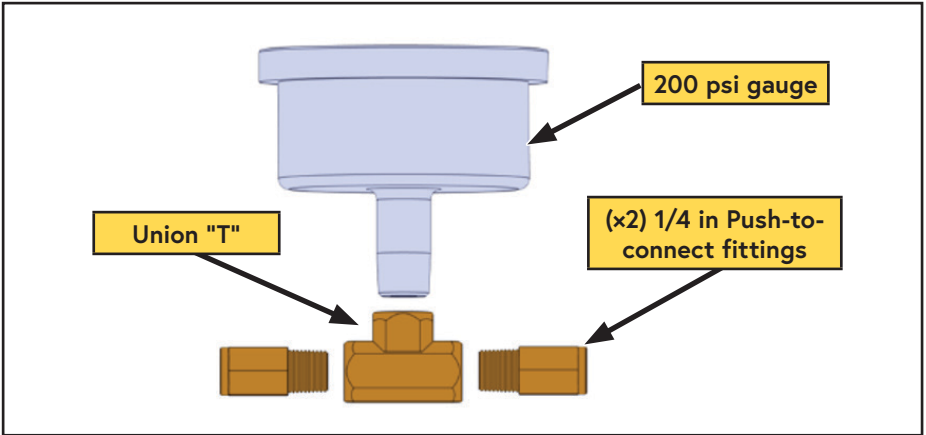
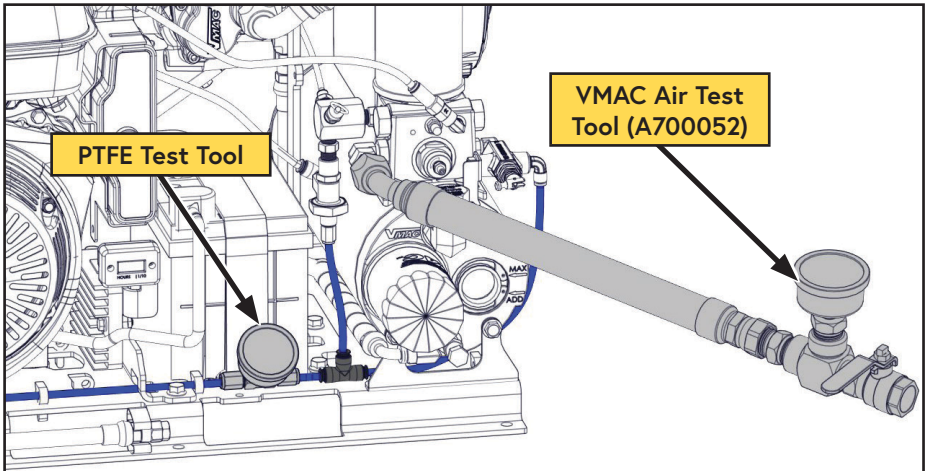

Figure 47 — PTFE Test Tool
Figure 60 — Test equipment installed
A PTFE test tool can be constructed and used to test the unloader valve and throttle actuator function (Figure 47).
- Install a test tool on the system outlet (Figure 60).
- Install the PTFE test tool (Figure 47 on page 73) on the 1/4 in throttle tube on the engine side of the 1/4 in PTFE Union (Figure 60).